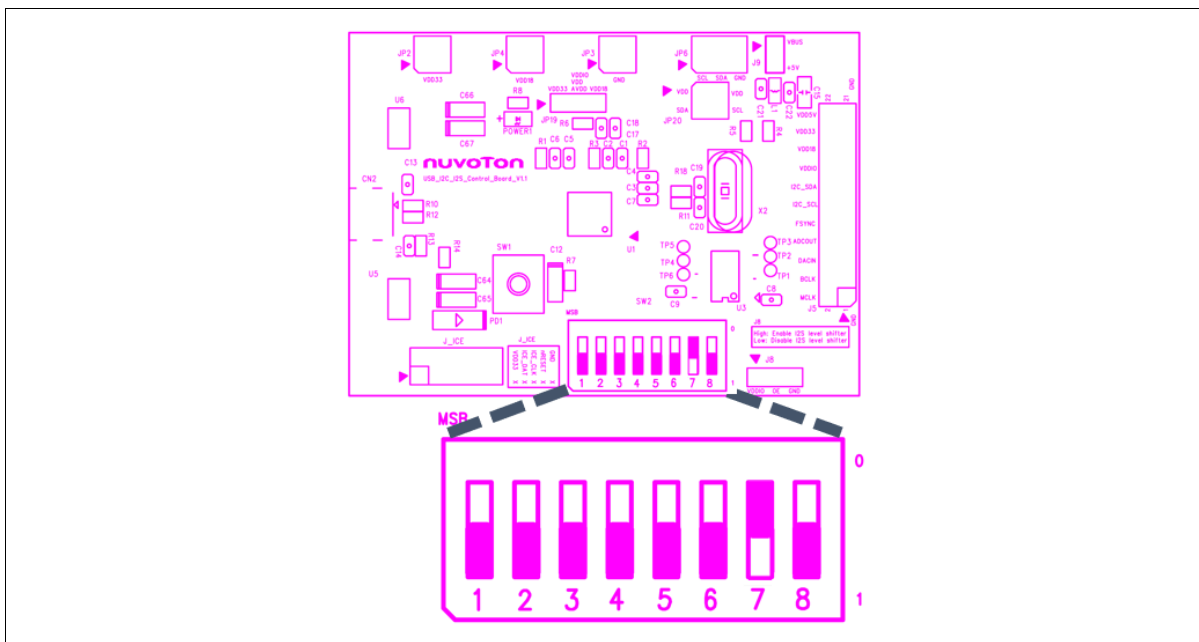

Figure 2-3 PIN Status of NU-NAUSB212C SW2
1. Confirm that pin 7 of SW2 of NU-NAUSB212C is high and the rest are low level, as shown in Figure 2-3.